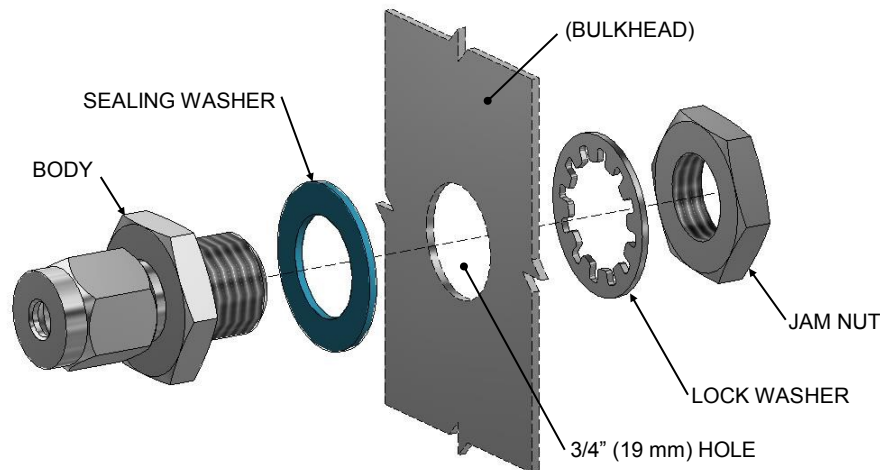

Figure 4.3.2a
2. Install the LHD Quik-Seal into the hole. Ensure the sealing washer and lock washer are installed where shown (See Figure 4.3.2a). Torque the jam nut to 25-30 ft-lb. Note: The LHD Quik-Seal may be oriented in either direction with the body located on either side of the bulkhead.